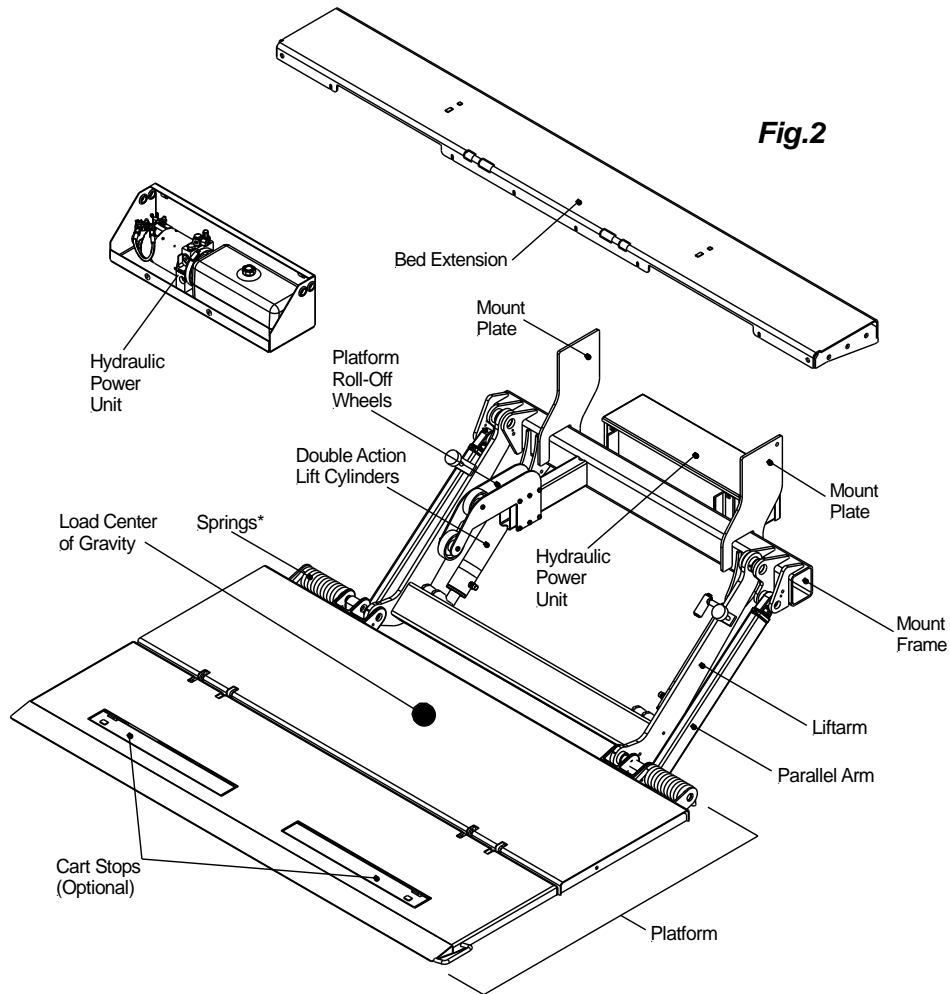

Fig.2
- Standard Configuration - No bumper. **Fig.2.**